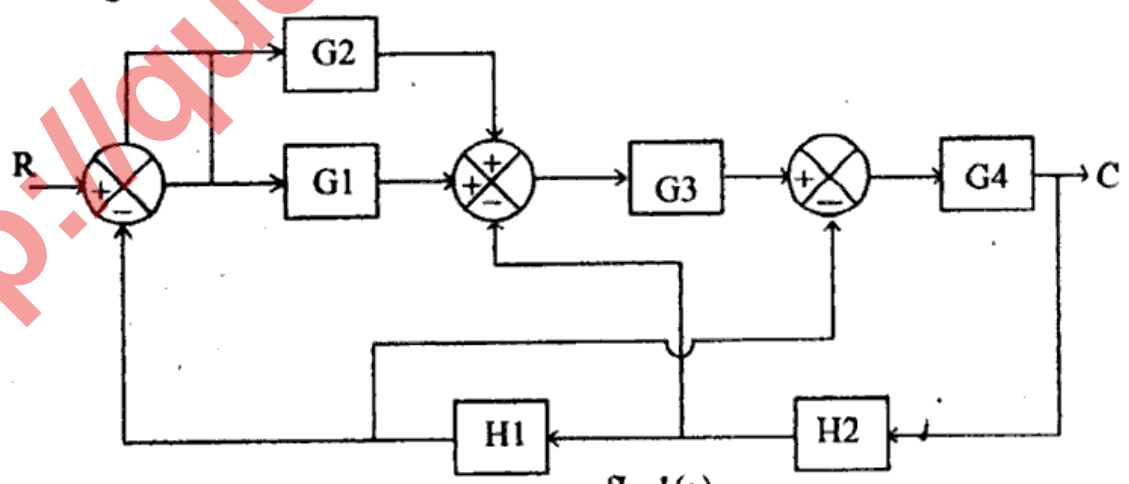

fig.1(a)
Q.1. (b) Fig. 1(b) shows a positional control system for controlling the position of a shaft. The potentiometer error detector measures the deviation of the output shaft w.r.t. reference position  $O_r$ . The error is amplified by mean of an amplifier, the output of which is fed to an armature controlled dc motor. The motor shaft is coupled to the load shaft through a gear. The system parameters are as follows;